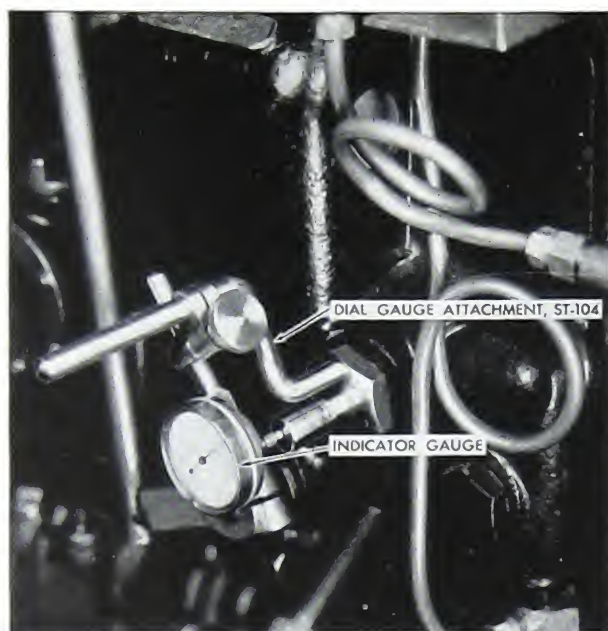

Fig. 5-163. Gauging fuel cam lift
7. Install dial indicator gauge and attachment, ST-356, in fuel pump main housing in place of the cam rocker lever spring and retainer, Fig. 5-163.